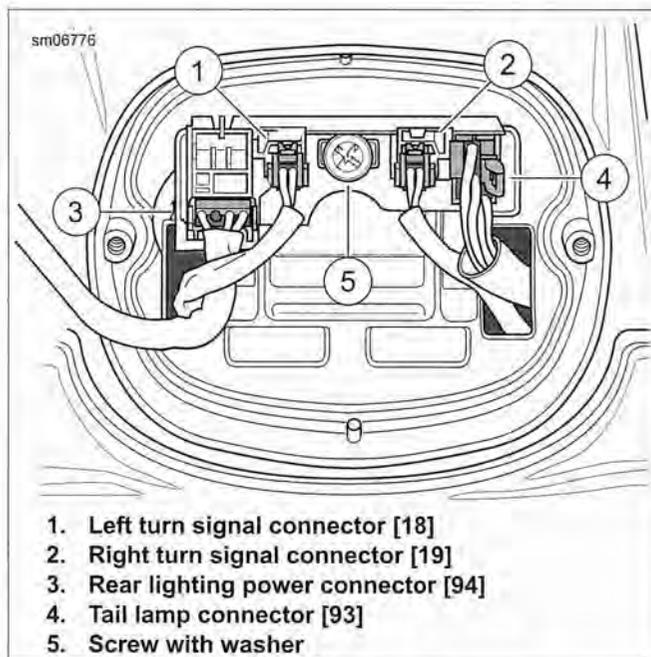
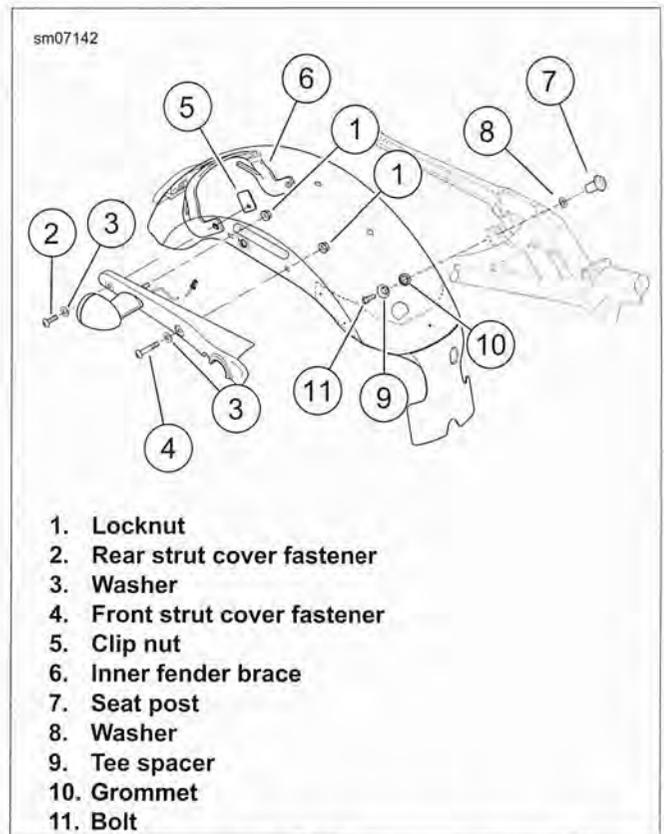

Figure 2-196. Tail Lamp Housing
Figure 2-198. Rear Fender Assembly: XL 883R/L and XL 1200L
- b. See Figure 2-196. Unplug left [18] (1) and right [19] (2) turn signal connectors from rear lighting circuit board.
- a. See Figure 2-198. Support fender and remove front strut cover fastener (4) with washer (3) and locknut (1), and rear strut cover fastener (4) with washer (3) and clip nut (5) on both sides.
- c. Remove bolt (11), seat post (7) and washer (8) to detach top of fender from frame cross member tab.
2. See Figure 2-198. Align holes in fender with those in struts. Support fender and install fasteners (4, 2) through fender struts and fender to hold fender in place.
5. Secure front of fender with bolt (11), washer (8) and seat post (7). Finger-tighten.
8. Install locknut (1) onto turn signal stalk from inside fender. Finger-tighten.
9. Secure fender to strut with fasteners (4), washer (3) and locknut (1) in forward mounting hole. Install fastener (2), washer (3) and clip nut (5) in aft mounting hole. Finger-tighten.
- c. See Figure 2-196. Connect tail lamp connector [94] (3) and left [18] (1) and right [19] (2) turn signal connectors.